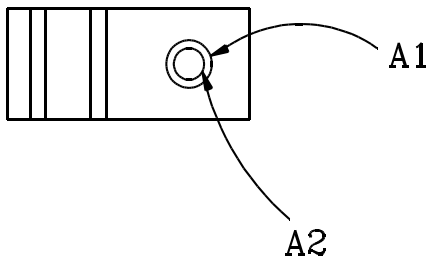

Figure 9
28. Click on A1 and A2 to the right. (See Figure 9.)